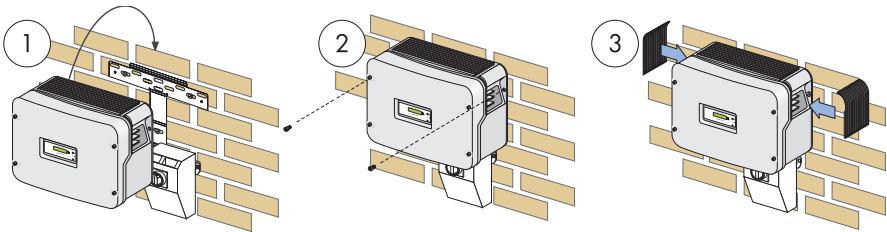

Figure 4-10: Mounting the Sunny Boy
1. Carefully lift the Sunny Boy onto the wall-mounting bracket. Hook the Sunny Boy using the enclosure opening in the back plate into the wall bracket (see # 1 in Figure 4-10).
3. Attach the Sunny Boy to the mounting bracket with the two M6 screws and washers provided through holes next to the fan outputs on both sides of the Sunny Boy (see # 2 in Figure 4-10). The teeth of the washers should face towards the wall in order to ensure proper grounding. Tighten the screws to a torque of 44 in-lb (5 Nm).
4. Snap the left and right handle covers, provided in the accessories kit, into the Sunny Boy (see # 3 in Figure 4-10). Look for the L & R on the inside of the fins. They are required to adequately prevent insects entering the unit.